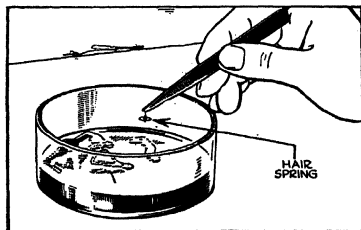

FIG. 11.—Handling hairspring in benzene bath.
**Cleaning Instruments.**—All parts that have been removed should be put in a cup or glass of benzene, as in Fig. 11. The handstaff with pinion,